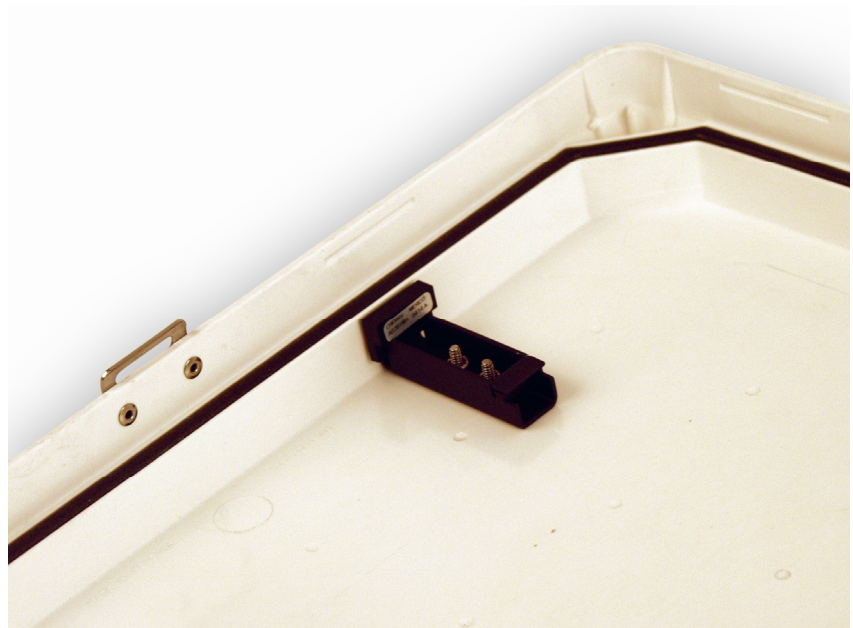

FIGURE A.1-14. The actuator attached to the enclosure door.
5. Attach actuator to door using two #17909 screws and two #8548 nuts (see Figure A.1-14).